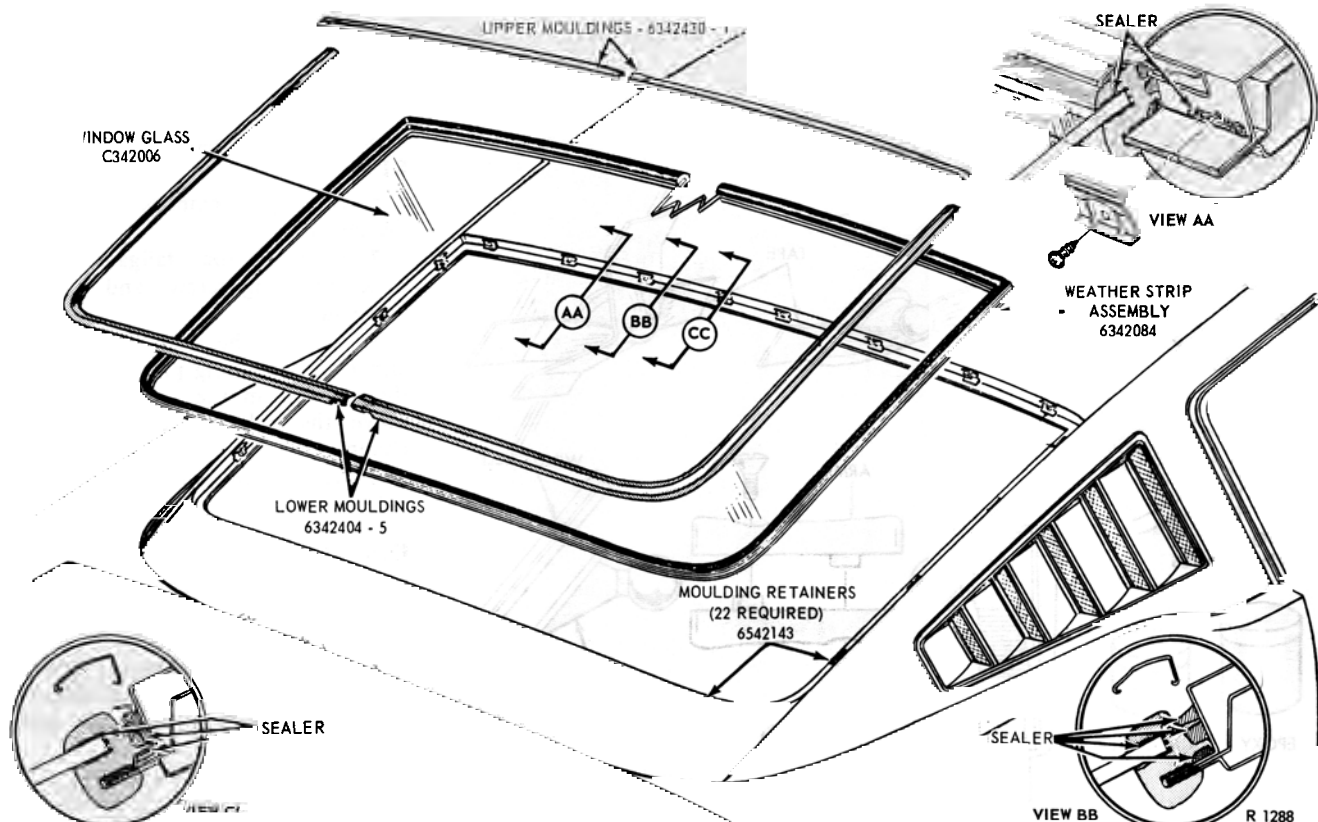

FIG. 24—Back Window Installation—Mustang Body Type 63
7. Using moulding removal Tool T64P-42006-A or B, remove the back window exterior mouldings in the following order: right upper moulding, right lower moulding, left upper moulding and left lower moulding (Fig. 24).